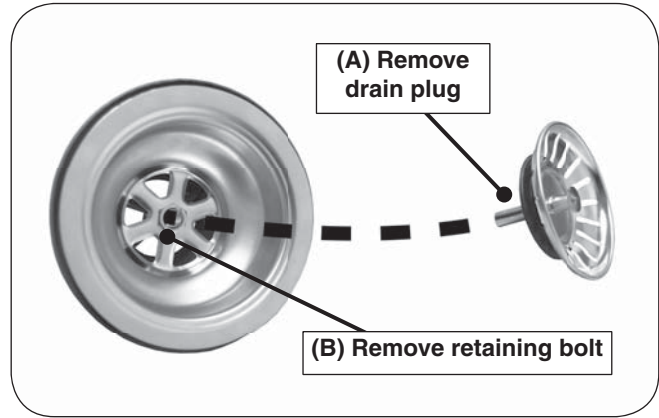

Fig. 2-1 Remove drain plug and retaining bolt
1. Pull out the plug from the drain assembly, and remove the exposed retaining bolt using a Flathead screwdriver or a  $\frac{9}{16}$ " nut driver (see Fig. 2-1).